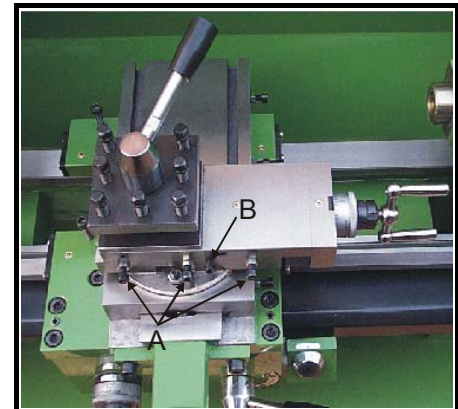

Fig. 24
1. **Gib Of The Top Slide** – loosen the nuts and readjust the screws (A, Fig.24) clockwise slightly. Then retighten the nuts. The top slide can be immobilised with the locking screw (B, Fig.24).